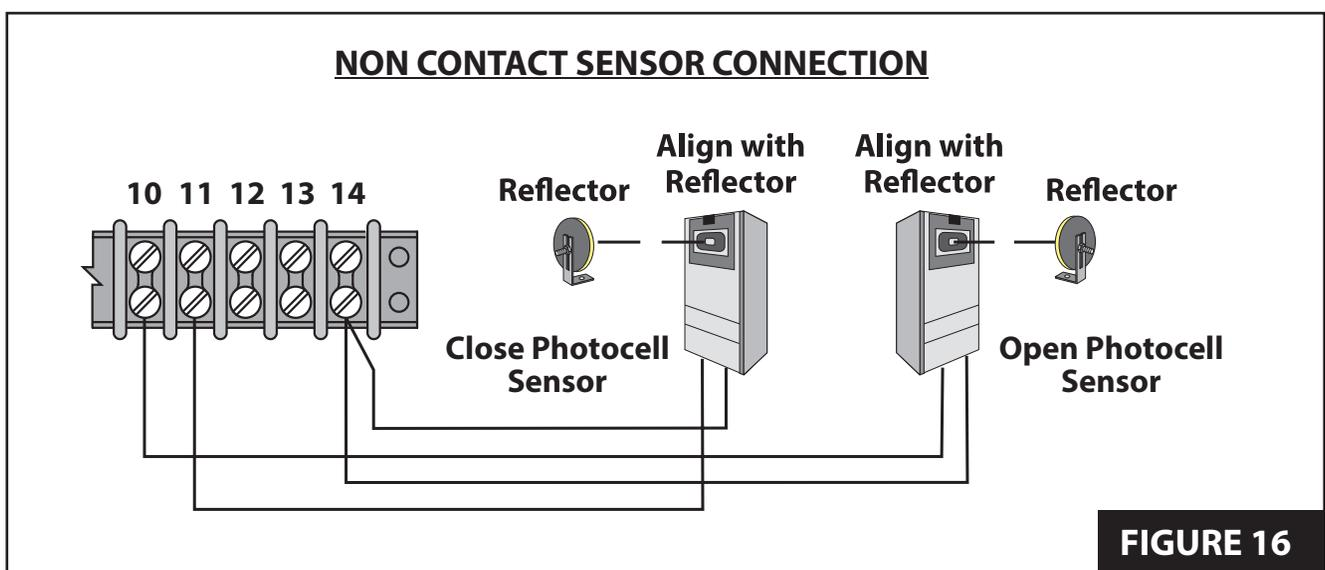

FIGURE 16
- Connect NON-CONTACT sensors to the control board as shown in **Figure 16**.